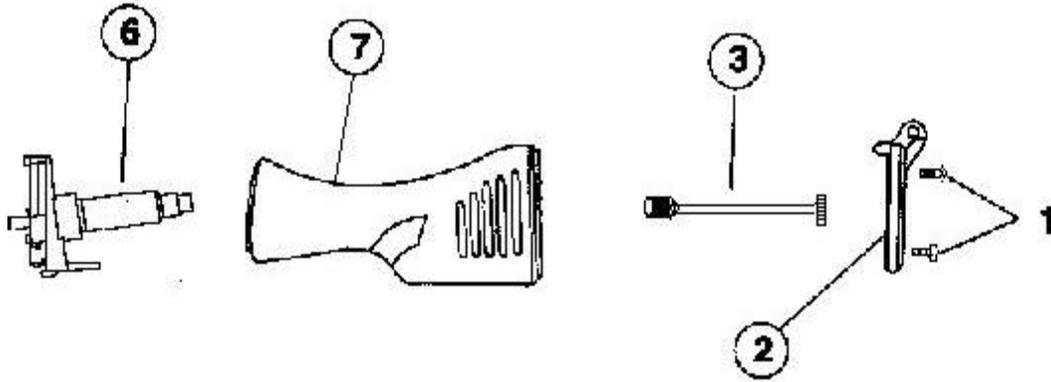

Figure 3
- 6) Follow the disposition instructions provided in paragraph 8 for Buffer Assembly (6), PN 12976857; and Buttstock Securing Screw, PN 12976862.
- b. REASSEMBLY: Add the following parts in accordance with subsequent instructions and Figure 3: